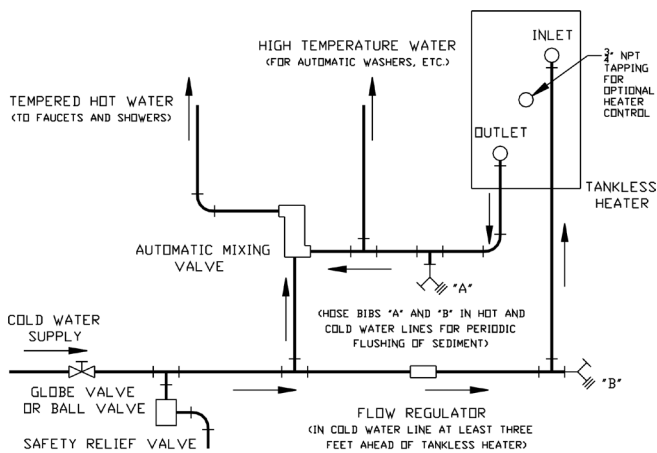

Figure 41: Schematic Tankless Heater Piping
1. **Hot Water Boiler/Tankless Coil(s)** – Tankless coils, mounted into the side of the boiler(s), have been used successfully for many years and may be used in single and multiple boiler applications. When a boiler is arranged with tankless coils, it is not recommended that outdoor reset be used, unless there are controls in place to prevent overheating of the space heating zones. Figure 41 depicts the addition of an automatic mixing valve to the tankless heater piping to obtain a dual temperature domestic system. The mixing valve provides tempered water to the fixtures, while the branch prior to the valve provides high temperature water for dish washing, washing machines and other appliances.
- CONNECT TANKLESS HEATER PIPING as shown in Figure 41. See Table V for Tankless Heater Ratings.
If flow through the heater is greater than its rating, the supply of adequate hot water may not be able to keep up with the demand. For this reason a FLOW REGULATOR matching the heater rating should be installed in the cold waterline to the heater. Refer to Figure 41 for piping recommendations. The flow regulator should preferably be located below the inlet to the heater and a minimum of 3 feet away from the inlet so that the regulator is not subjected to excess temperatures that may occur during "off" periods when it is possible for heat to be conducted back through the supply line. The flow regulator also limits the flow of supply water regardless of inlet pressure variations in the range of 20 to 125 psi.
All water contains some sediment which settles on the inside of the coil. Consequently, the heater should be periodically backwashed. This is accomplished by installing hose bibs as illustrated in Figure 41 and allowing water at city pressure to run into hose bib A, through the heater, and out hose bib B until the discharge is clear. The tees in which the hose bibs are located should be the same size as heater connections to minimize pressure drop.